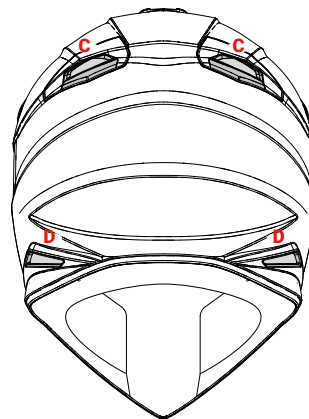

FIGURE 4
■ PRISE D'AIR POSTERIEURE – C – Figure 4
■ PRISES D'AIR LATERALES – D – Figure 4